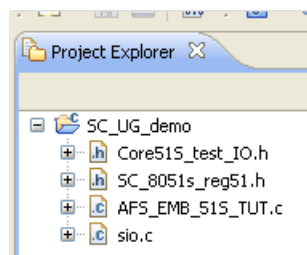

Figure 3-5 · Imported Files
- Expand the project by clicking the + sign next to the project name in the Project Explorer window (Figure 3-5). You can view any of these files in the editor window by double-clicking the file name.